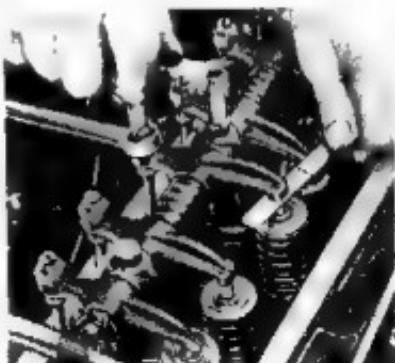

Fig. 26 Valve Tappet Adjustment
3. Check the clearance between the rocker arms and the valve stems with a feeler gauge (fig. 26). The clearance should be as follows:
4. When adjustment is necessary loosen the rocker arm adjusting screw lock nut and turn the screw clockwise slightly to decrease clearance and counterclockwise to increase clearance (fig. 26). Tighten lock nut and recheck clearance.